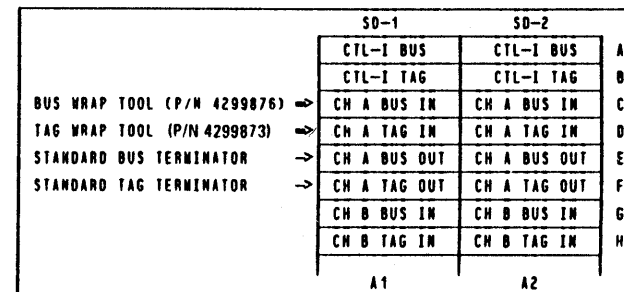

Figure 2. Example of the block wrap tools installed in channel A on a 1-, 2-, or 4-channel 3880
1. The bus and tag block wrap tools must be placed in the tailgate and terminated with standard bus and tag terminators when prompted to do so by the maintenance device, as shown in Figure 2.
Routine 79 tests the channel path of all bus and tag lines in a circuit between the electronic channel wrap block tools and the channel interface terminators (see Figures 2, 3, and 4).